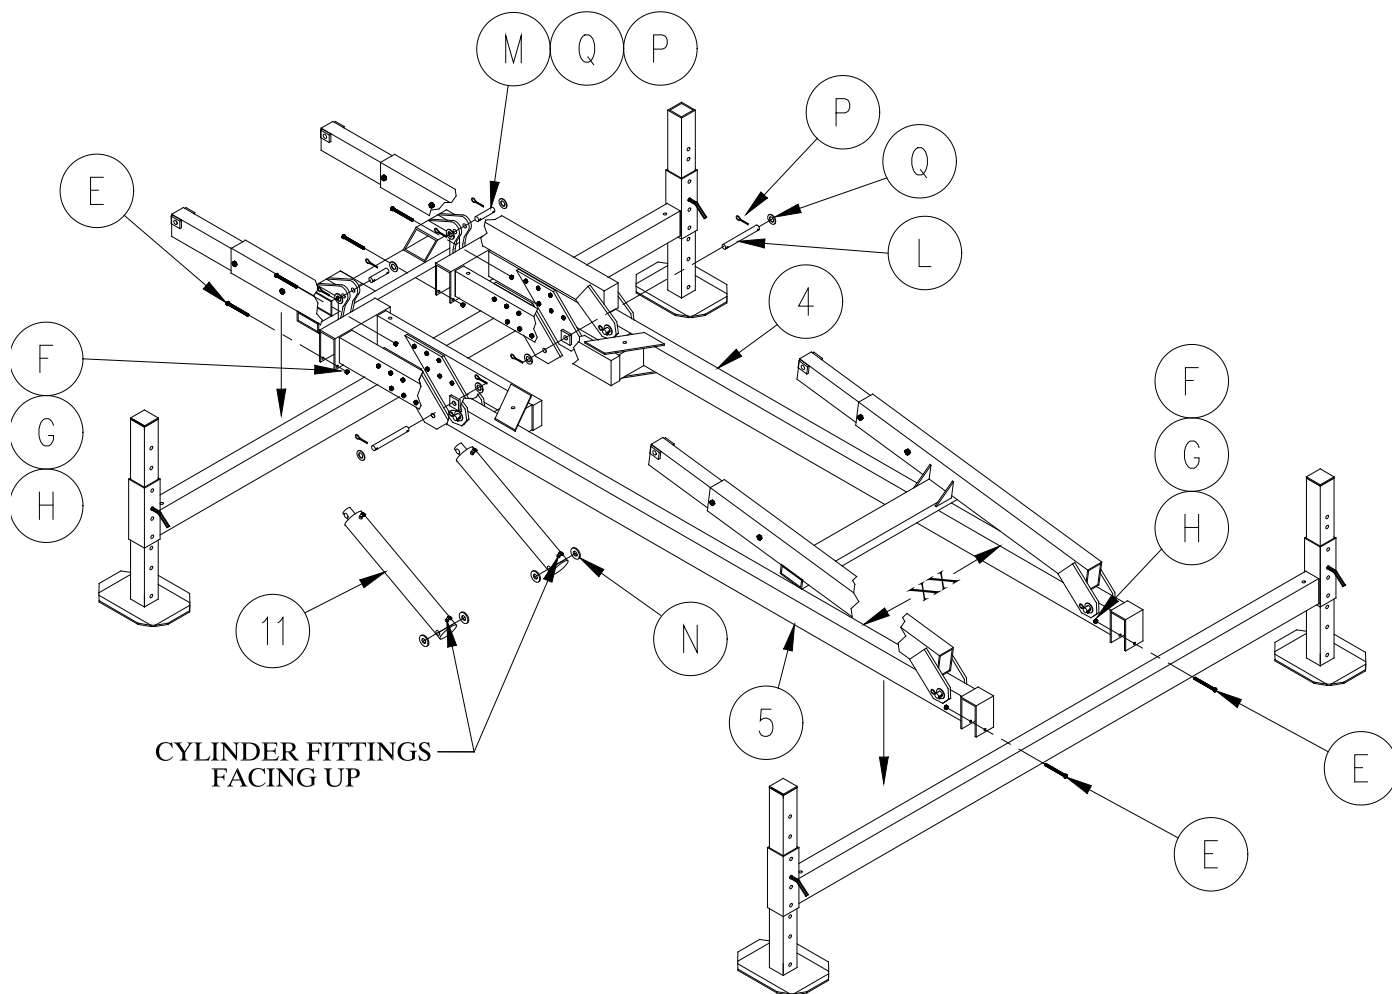

Figure 3-4.
1. **Refer to Figure 3-4.** Install the hydraulic cylinders (11) onto the main frame. Place the cylinders in position so that the hydraulic fittings are facing upward. Place the cylinders in position and insert pin (L) through only one cylinder support plate. Install flat washer (Q) between the cylinder and the cylinder support plate. Insert clevis pin through the cylinder body. Insert another flat washer (Q) between the cylinder and the other support plate.
1. **Refer to Figure 3-4.** Install left side main frame (4) and right side main frame (5) onto each leg assembly. Center the main frames onto the leg assembly as close to center as possible. Also set left and right frames to a dimension of 31-1/2" inside frame as shown (XX) on figure 3-4.